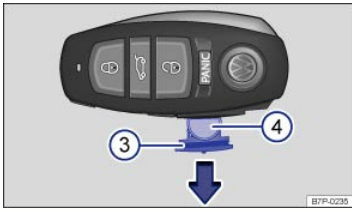

Fig. 20 Opening battery compartment of the remote control vehicle key.
- Pull the battery compartment out ⇒ Fig. 20③ in the direction of the arrow and remove the battery ④.
- Push the cover as shown ⇒ Fig. 20 and press it down (opposite to direction of the arrow) until you hear it click into place.
- Push the battery compartment in the direction opposite to the arrow ⇒ Fig. 20 back into the remote control vehicle key fob.